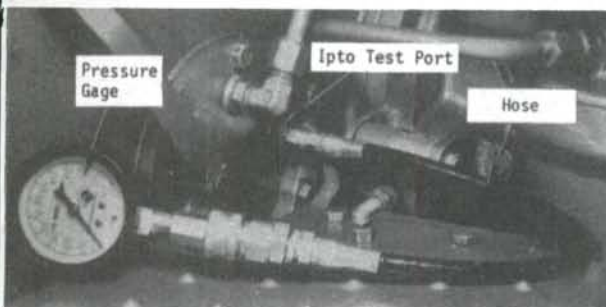

Fig. 308—Install a 4000 kPa (600 psi) pressure gage in test port in left-hand side cover to check ipto clutch pressure.
**243. IPTO PRESSURE TEST.** To check ipto operating pressure, install a 4000 kPa (600 psi) pressure gage in test port in pto side cover on left-hand side of differential housing (Fig. 308). Start engine and run at 2000 rpm. Oil temperature should be 50°-60° C (120°-140° F).